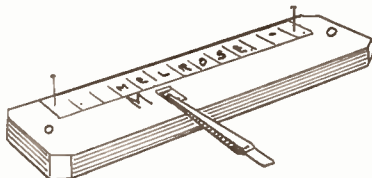

Fig. 2
shown in Fig. 2. This strip, by the way, should be previously cut along line (C), and the lower portion, not being wanted, thrown away. It is then pinned to the board or plate, as shown in Fig. 2.